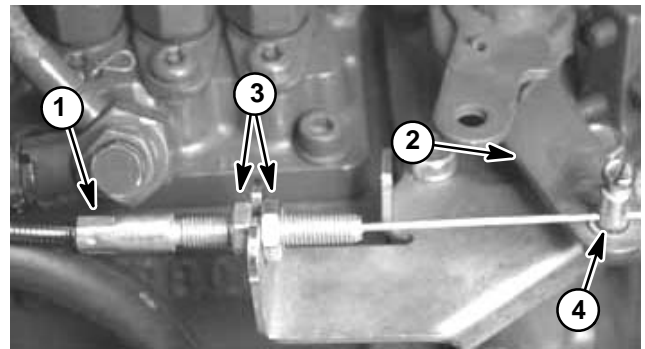

Figure 12
9. Loosen screw that secures the throttle cable to swivel on injector pump speed control lever. Disconnect cable from swivel and cable bracket (Fig. 12). Position cable away from engine.
8. Connect throttle cable to the swivel on injector pump speed control lever (Fig. 12). Adjust throttle cable and secure to bracket (see Adjust Throttle Cable in the Adjustments section of this chapter).